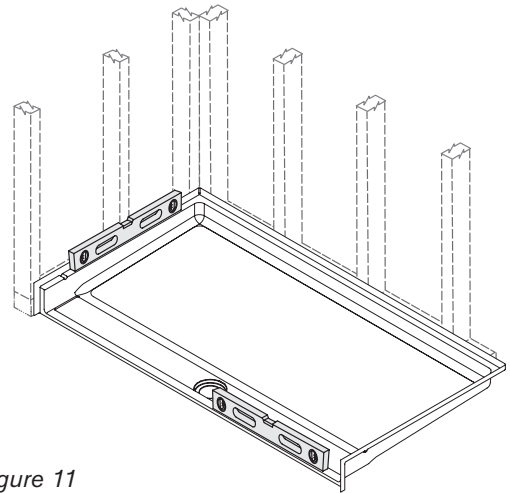

Figure 11
- 14 Lower pan into position; **do not drag or slide it**. Make sure the front aligns with curb line drawn in Step 3. Avoid stepping on pan until mud set has cured; follow curing instructions for mud set being used. Check ledges and front edge with a level. (Figure 11)